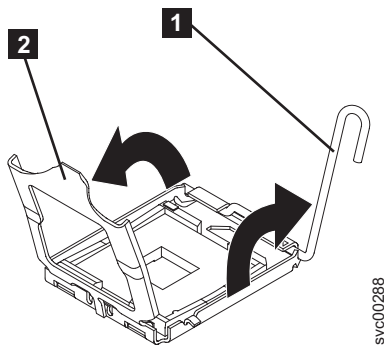

Figure 225. The microprocessor release lever and bracket frame fully opened
4. Open the microprocessor release lever (**1** in Figure 225) to the fully open position.
5. Open the microprocessor bracket frame (**2** in Figure 225).